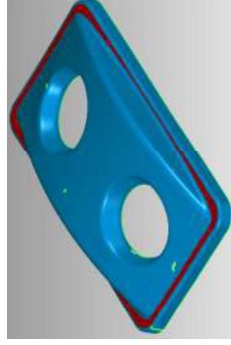

Figure 15
- The selected area should appear as shown in **Figure 15**.